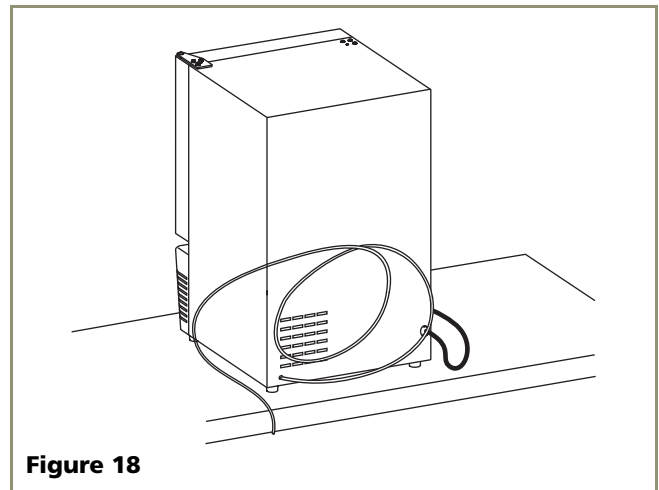

Figure 18
- Connect sufficient tubing to the unit so that tubing may be looped, allowing the unit to be removed for cleaning and servicing (see **Figure 18**). However, make certain that the tubing is not pinched or damaged during installation.
Route the water supply line through the unit so it does not come into contact with any internal components other than the solenoid valve. See **Figure 18**. Normal operation creates some vibration. A water supply line contacting an internal component or cabinet wall can cause excessive noise during operation or damage to the line.
4. For recessed installations, allow extra water supply line length to provide slack for easy removal from the recessed area (see **Figure 18**). This will also safeguard against kinking the line.